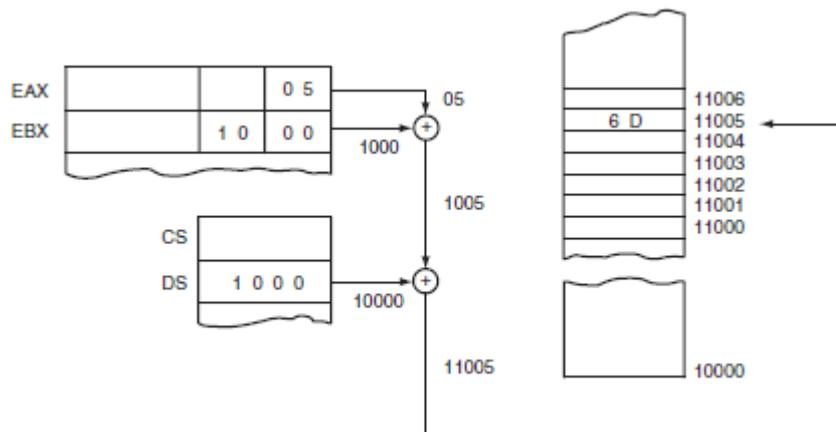

Figure 4-19: The operation of the XLAT instruction at the point just before 6DH is loaded into AL
- This first adds the contents of AL to BX to form a memory-address within the data-segment. This then copies the contents of this address into AL (Figure 4-19).